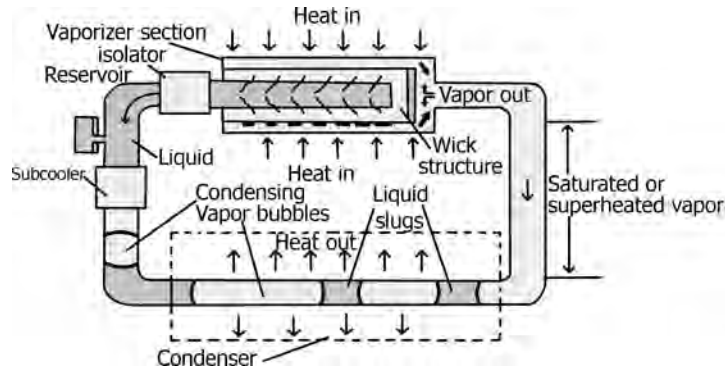

FIGURE 13.23 Capillary pumped looped heat pipe.
- **Capillary Pumped Loop Heat Pipe** (Figure 13.23): For systems where heat fluxes are very high or the heat from the heat source needs to be moved far away. In the looped heat pipe, vapor travels around in a loop and condenses and returns to the vaporizer. Used in electronics cooling.